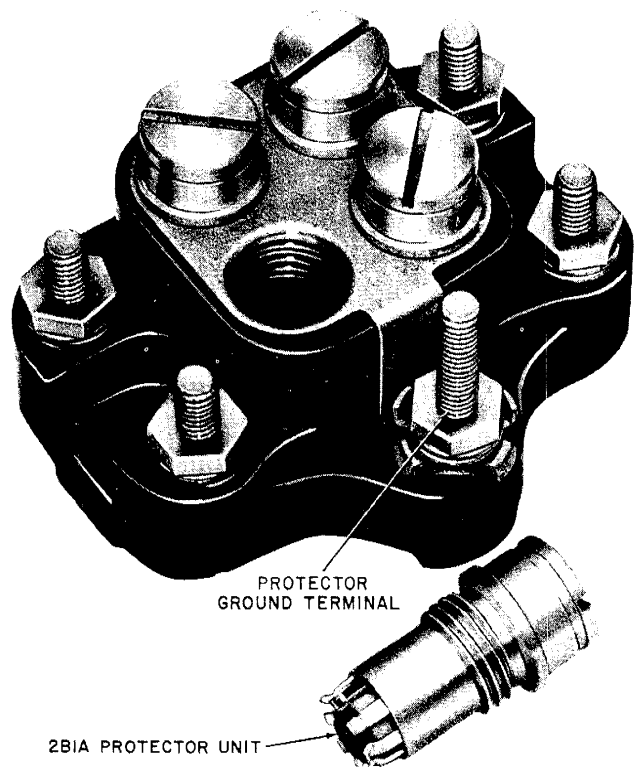

Fig. 2—128A1A-2 Protector
**2.04** The 128A1A-2 Protector consists of a base of insulating material containing five binding posts and four 2B1A Protector Units (Fig. 2).